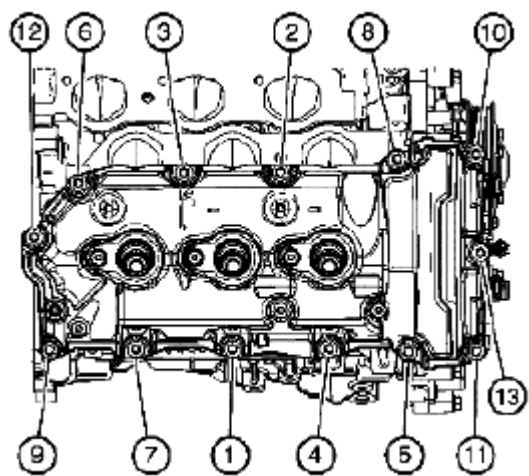

Fig. 976: Tightening Right Camshaft Cover Bolts
8. Tighten the right camshaft cover bolts in the sequence shown in Fig. 976.